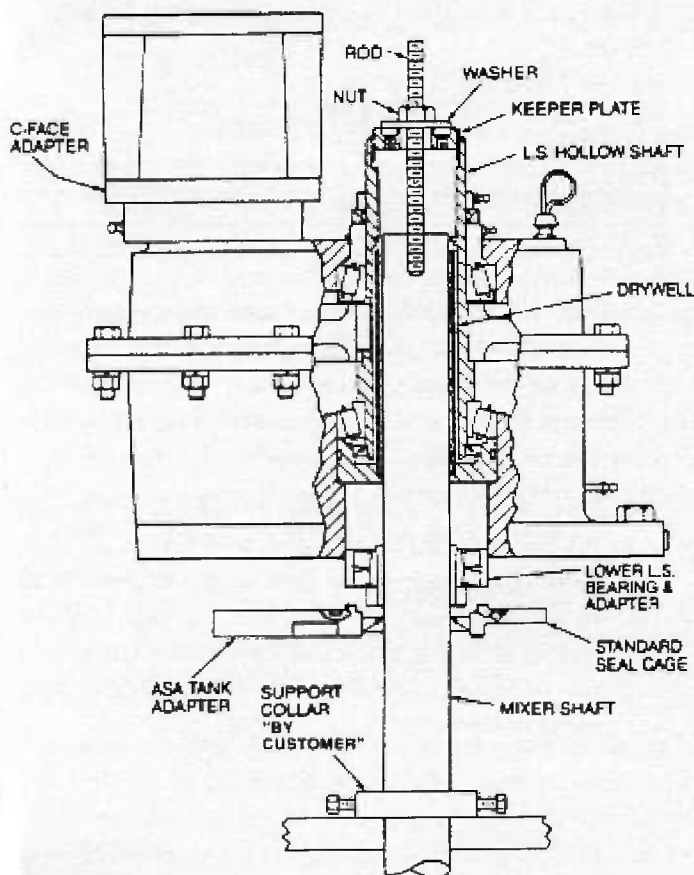

Figure 10 — HGD reducer installation
1. Refer to Fig. 10. Support the mixer shaft to allow working room beneath the seal cage or tank-flange adapter.
4. Refer to Fig. 10. Thread the keeper plate all the way into the hollow shaft. Insert a threaded rod (See Table 3 for size) through the plate and into the mixer shaft. Tighten a nut on the threaded rod to draw the mixer shaft into the unit until it contacts the keeper plate. When the mixer shaft is in place (support it in this position), remove the threaded rod and keeper plate.